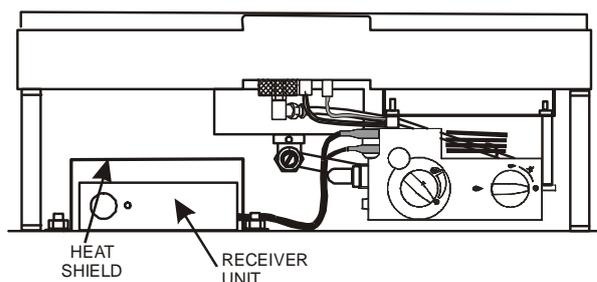

Figure 46
4. Position the receiver under the heat shield as shown in **Figure 46**.